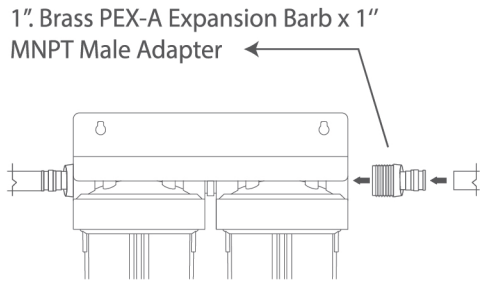

Figure 1
2. Remark two 1". Brass PEX-A Expansion Barb x 1" MNPT Male Adapter(not included in the box). Wrap more than 10 turns of Teflon tape on the external thread of the Adapter. Screw one end of the external thread into the thread of the 1" FNPT filter bottle and tighten it with a wrench. (Figure 1)